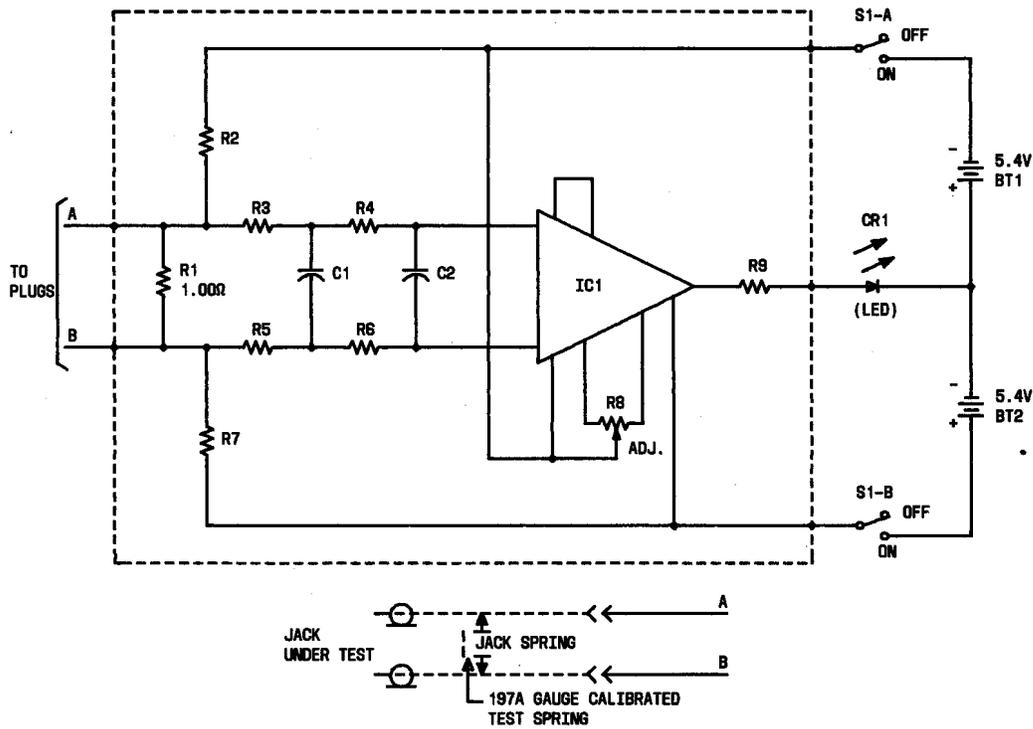

Fig. 2—Application of Circuit in the 197A Gauge
1.05 Since the jack spring is hidden within the jack, its response to the pressure of the introduced spring can not be directly observed. The circuit, (see Fig. 2), in the gauge illuminates a light emitting diode (LED) when the jack spring tension is out of limits and extinguishes the LED when the jack spring tension is within limits. This provides a visual indication of the status of the jack spring.